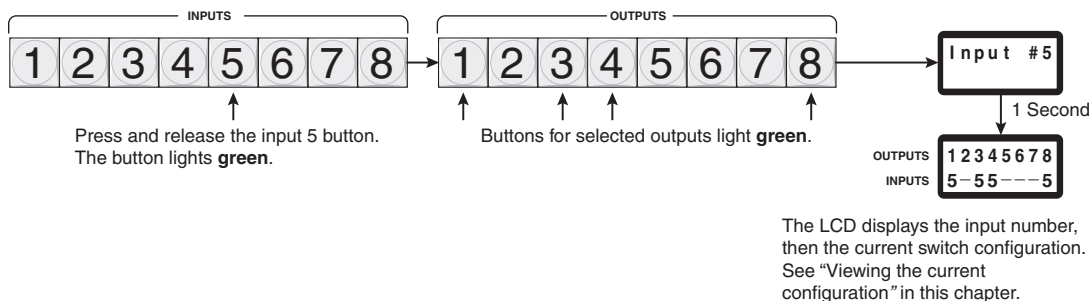

Figure 3-13 — Select an input
1. Press and release the input 5 button (figure 3-13). If the steps in Example 1 have been completed, the output 1, the output 3, output 4, and output 8 buttons indicate ties already created.